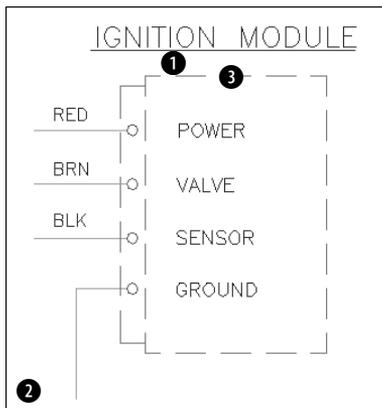

Figure 13-30: A section of an electrical schematic.
2. Save the file as ab13-08.dwg in your AutoCAD Bible folder. This is a small section of an electrical schematic, as shown in Figure 13-30. Make sure ORTHO and OSNAP are on, and set running snaps for endpoint, midpoint, and intersection.